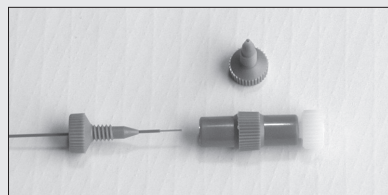
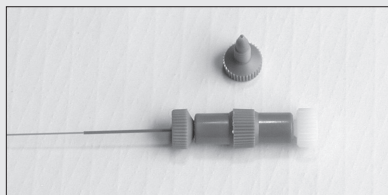

Figure 5.5 MicroTight® union with gauge plug and compression assembly ready to load
Figure 5.6 MicroTight® union with gauge plug and compression assembly loaded
2. Screw the white gauge plug finger-tight on to one end of the union. Thread the fused-silica transfer line through a green MicroTight sleeve. The appropriate sleeve size is 0.002–0.003 inches greater than the OD of the capillary tubing. Use the green MicroTight sleeves with 360 µm OD tubing. After the transfer line passes through a green sleeve, thread it through one of the compression fittings. Figure 5.5 shows the union loaded with the white gauge plug on the right and fused-silica tubing threaded through a tubing sleeve and a compression fitting. Cleave the end of the tubing and slip it into the union until both the tubing and the sleeve ends seat against the gauge plug inside the union. Screw the compression fitting finger-tight into the union, as shown in Figure 5.6.